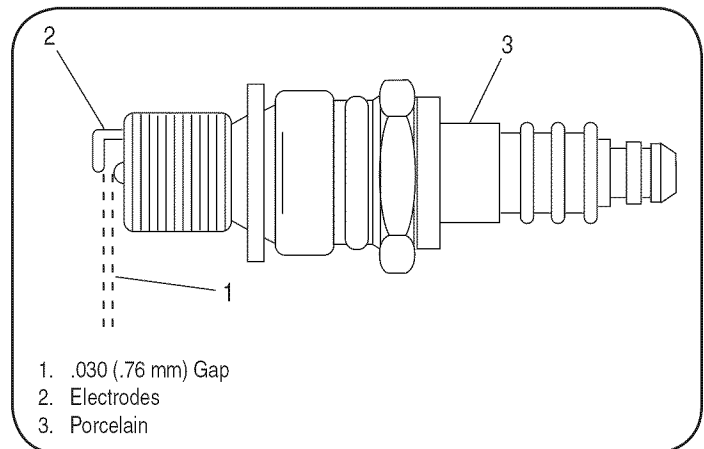

Figure 16
6. Check electrode gap with a feeler gauge and set gap to .030 (0.76mm) if necessary. See Figure 16.